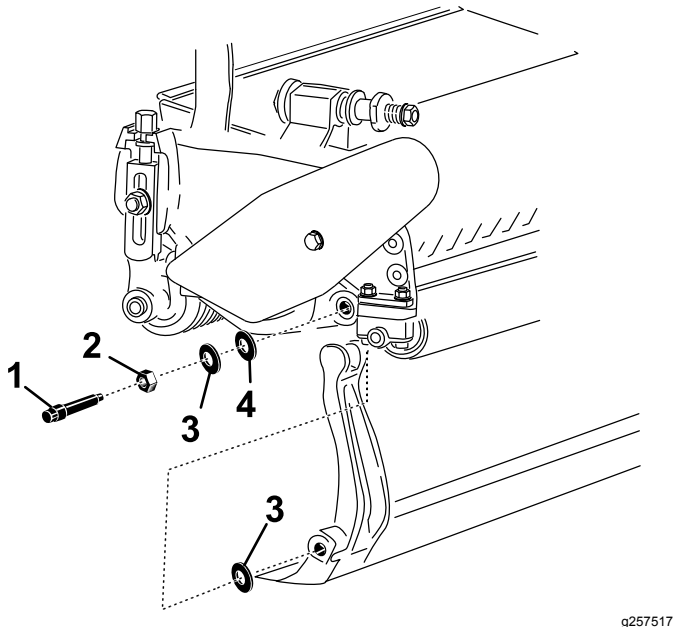

**Figure 25**
3. On each side of the machine, loosen the locknut securing the bedbar bolt (Figure 25).
4. Remove each bedbar bolt, allowing you to pull down the bedbar, and remove it from the machine bolt (Figure 25).